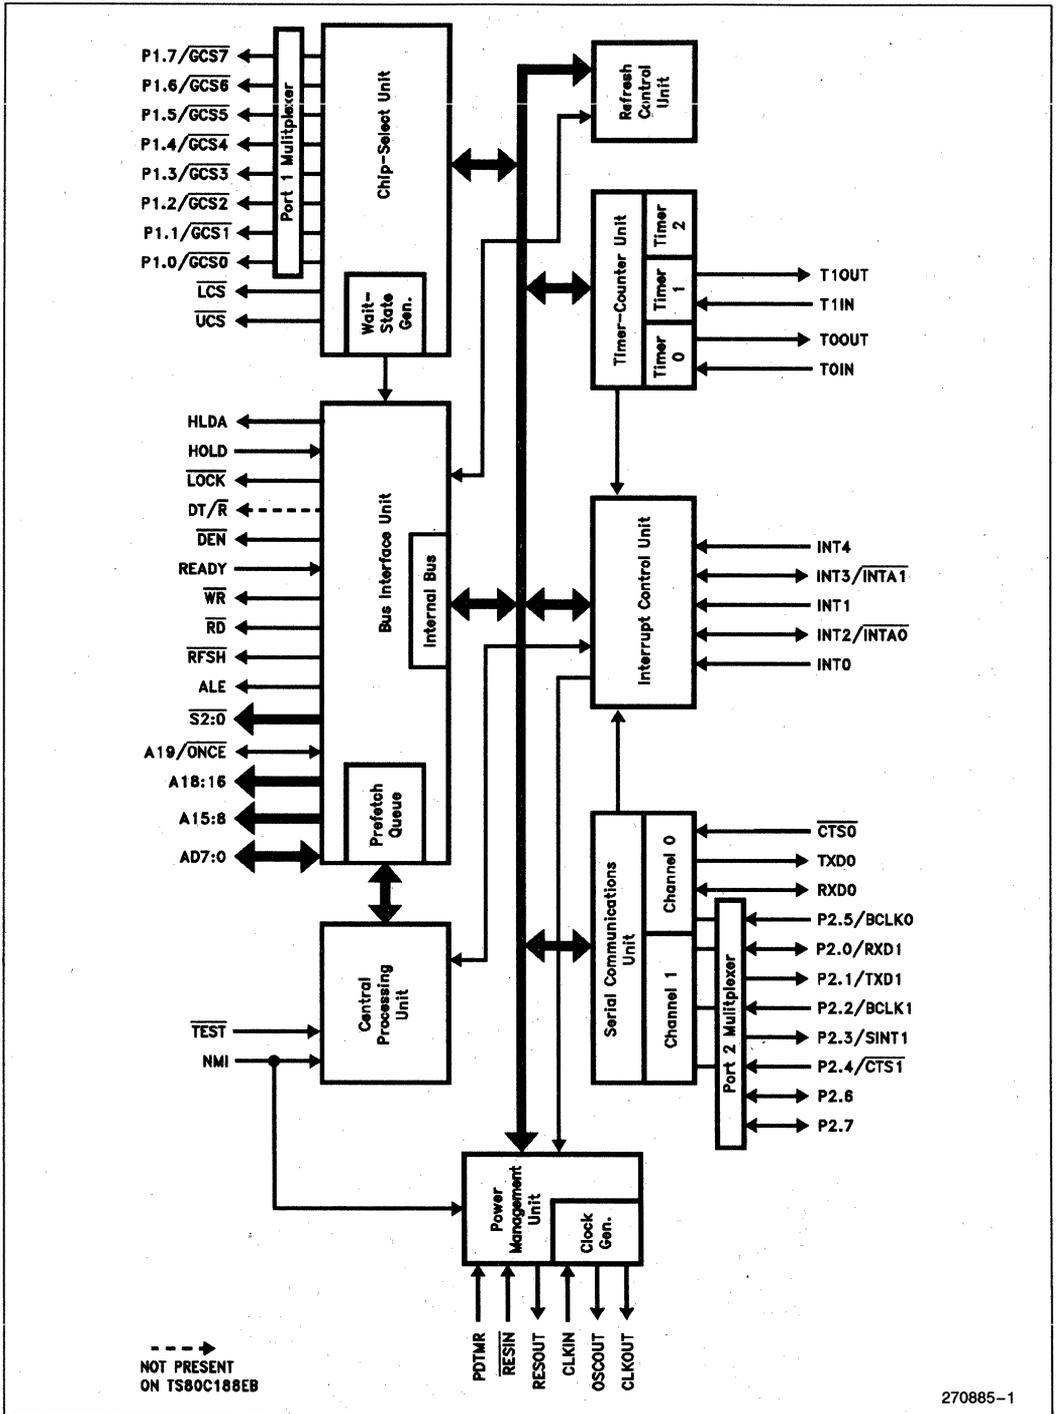

Figure 1. 80C188EB Block Diagram
Figure 1 shows a block diagram of the 80C188EB. The Execution Unit (EU) is an enhanced 8088 CPU core that includes: dedicated hardware to speed up effective address calculations, enhance execution speed for multiple-bit shift and rotate instructions and for multiply and divide instructions, string move instructions that operate at full bus bandwidth, ten new instruction, and full static operation. The Bus Interface Unit (BIU) is the same as that found on the original 188 family products, except the queue-status mode has been deleted and buffer interface control has been changed to ease system design timings. An independent internal bus is used to allow communication between the BIU and internal peripherals.